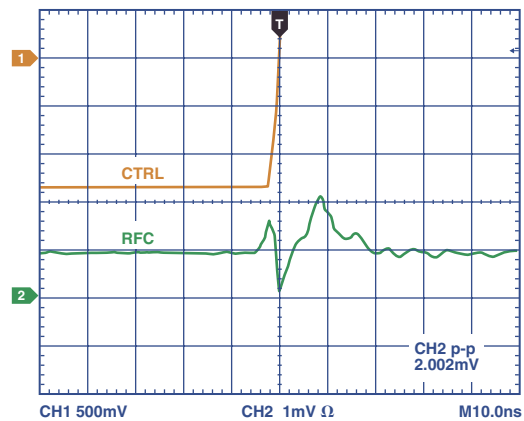

Figure 5. Video feedthrough.
**A:** **Video Feedthrough** (Figure 5) is the spurious dc transient present at the RF ports of the switch when the control voltage is switched from high- to- low-, or low- to- high, without an RF signal present. This is analogous to *charge injection* of a typical analog switch. It is measured in a 50-ohm test setup, with 1-ns (rise-time) pulses and a 500-MHz bandwidth.